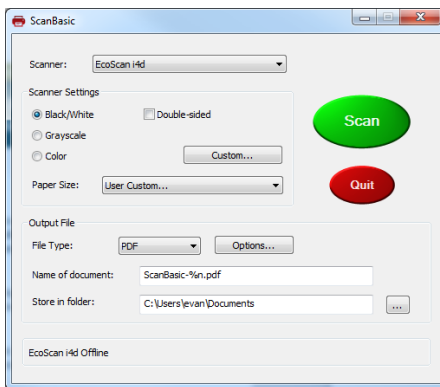
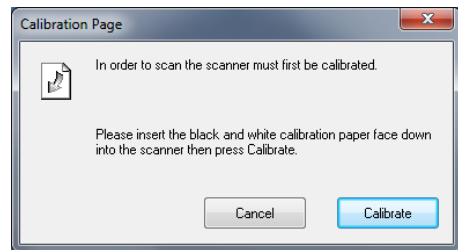
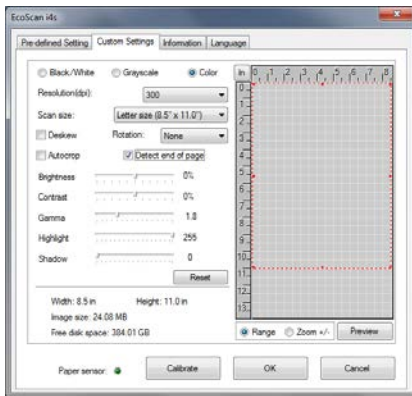
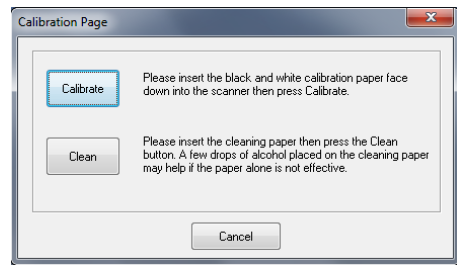

Fig. 11
Fig. 12
Fig. 15
Fig. 16
- b) After launching ScanBasic® for the first time, select the SCAN button (Fig.11) for step-by-step calibration instructions (Fig.12).
- d) If you switch scanners or the image quality has become unsatisfactory, please re-calibrate the scanner by selecting CUSTOM (Fig.11), then CALIBRATE (Fig.15), and then CALIBRATE again (Fig.16).
- ☺ Clean the scanner with the included cleaning sheet and 99% isopropyl alcohol (not included). Place a few drops along the middle of the sheet and insert into the scanner. Select “Calibrate” from the TWAIN control panel (Fig.15), then select “Clean” (Fig.16). Your scanner will automatically pass the cleaning material back and forth over the internal image sensor glass.**